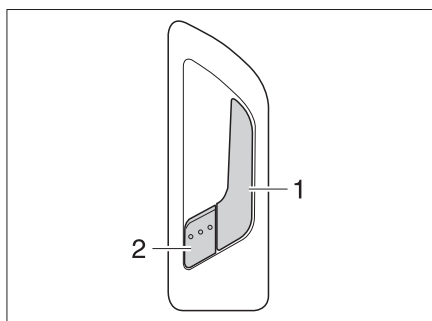

Fig. 26 Door lock of conversion door, inside
**Opening:** ■ Pull on the handle (Fig. 26,)1. The door lock is unlatched. The locking lever (Fig. 26,2) jumps out automatically.
**Locking:** ■ Press the locking lever (Fig. 26,2).